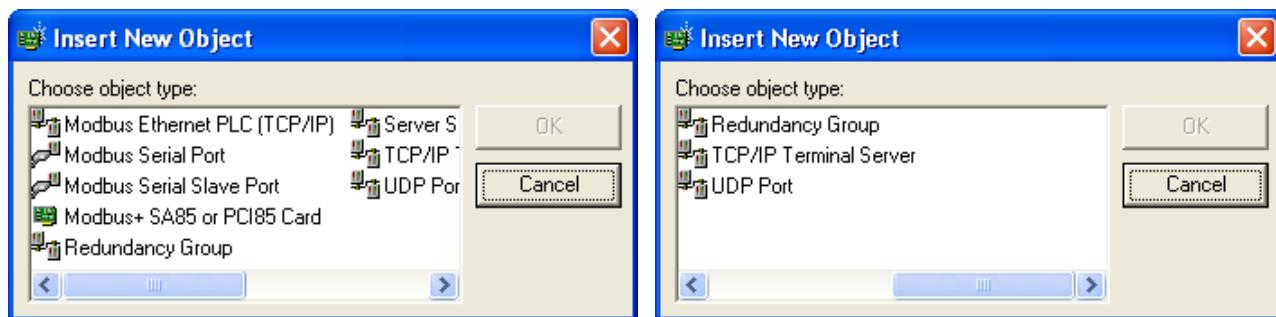

Figure 1 - Insert New Object Window
The **Insert New Object** window (Figure 1) displays a different set of options depending on the type of object selected and the types of objects already configured under it.
**Note:** Use the scroll bar at the bottom of the window to view all available options. Figure 1 shows two views of the same window so that you can see all of the available options; one view with the scroll bar moved to the left, and one with the scroll bar moved to the right.
2. The **Insert New Object** window (Figure 1) appears.